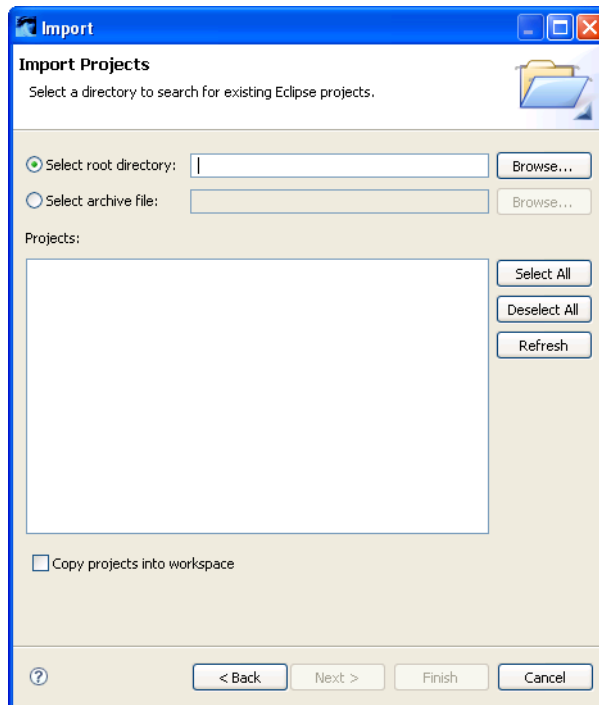

Figure 2-4 The import project dialog
3. Click the **Next** button to open a window like the one pictured in Figure 2-4 on page 2-6.